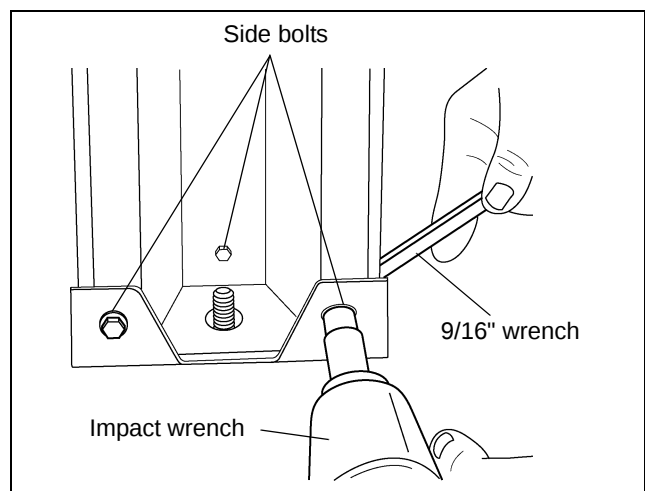
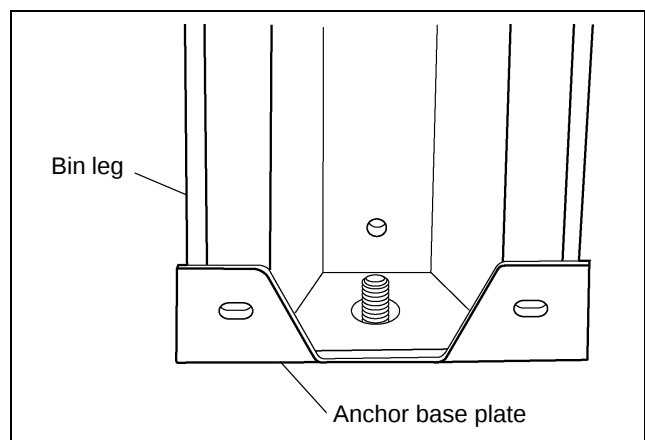

Figure 4B Remove leg anchor base plate side bolts using impact wrench and wrench.
Figure 4C All bolts, nuts, and washers removed from anchor base plate.
2. Remove side bolts using 9/16" wrench and impact wrench or ratchet. (See Figure 4B and Figure 4C.)